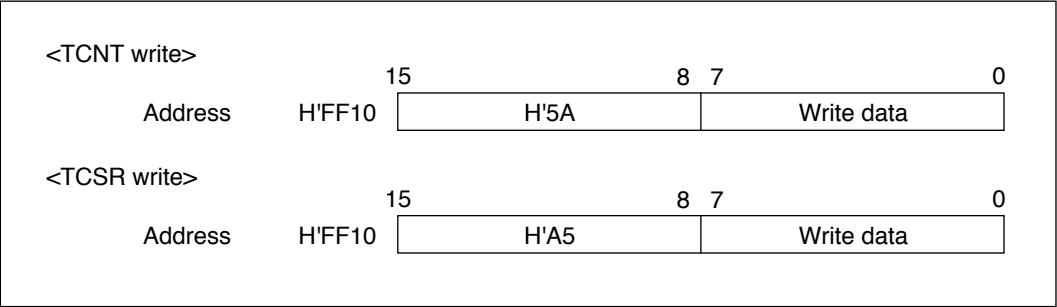

Figure 11-2 Format of Data Written to TCNT and TCSR
(1) **Writing to TCNT and TCSR:** These registers must be written by word access. They cannot be written by byte instructions. Figure 11-2 shows the format of data written to TCNT and TCSR. TCNT and TCSR both have the same write address. The write data must be contained in the lower byte of the written word. The upper byte must contain H'5A (password for TCNT) or H'A5 (password for TCSR). This transfers the write data from the lower byte to TCNT or TCSR.